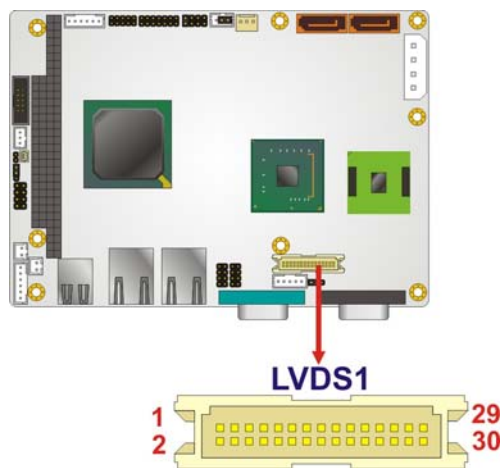

Figure 3-13: LVDS LCD Connector Pinout Locations
- CN Location:** See **Figure 3-13**